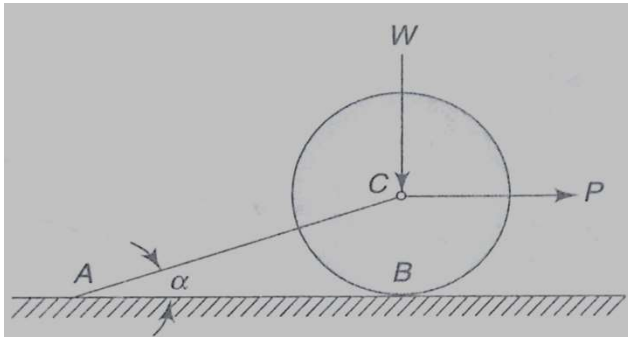

Figure 1.10
16. A right circular roller of weight W rests on a smooth horizontal plane and is held in position by an inclined bar AC as shown in Figure 1.10. Find the tension S in the bar AC and the vertical reaction R_b at B if there is also a horizontal force P acting at.